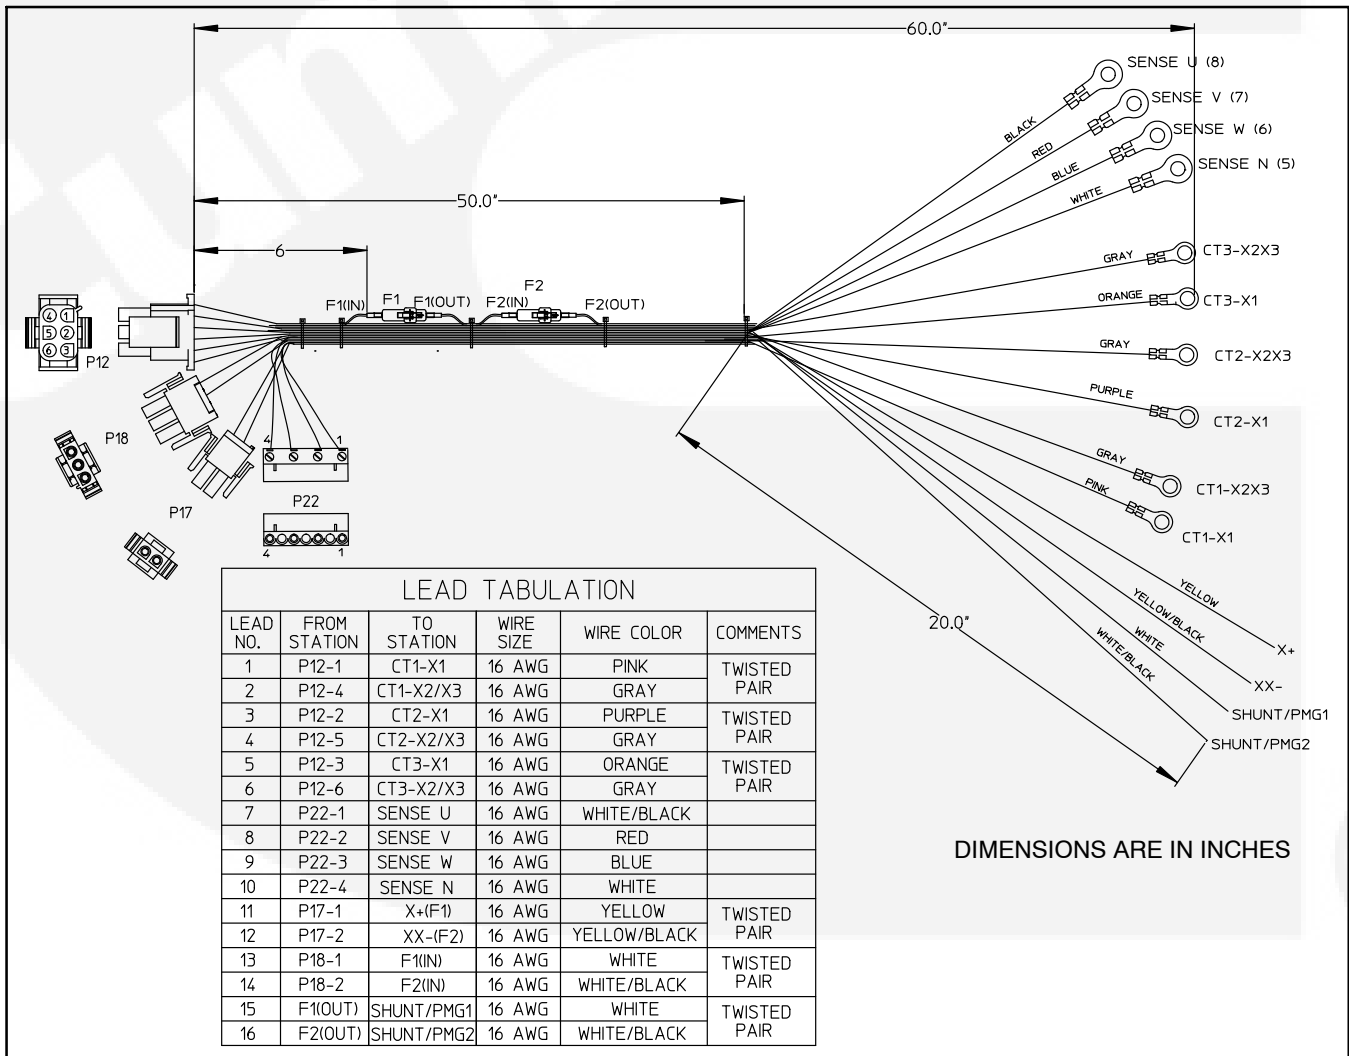

FIGURE 3-18. GENSET HARNESS
4. Install the genset harness (see Figure 3-18).